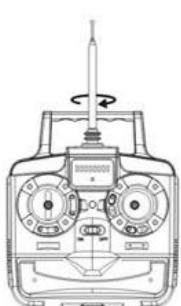

Fig.1
1. Install antenna: Remove antenna into controller clockwise. See Fig. 1
1. You can use the forward/backward inching switch to balance, you can be observed that the focus of the direction of the aircraft, during the swing back and forth is the bigger (Fig. 1), you can use the forward/backward coarse to balance.